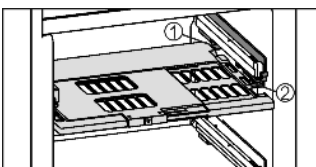

Fig. 14
- ▶ To insert the humidity control plate: Insert the cover mouldings of the plate into the rear holder Fig. 14 (1) from underneath and engage them in the holder Fig. 14 (2) at the front.